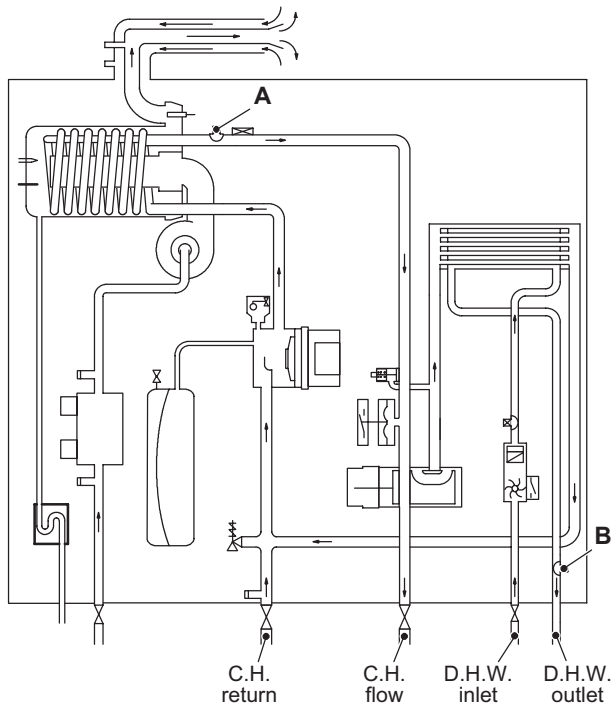
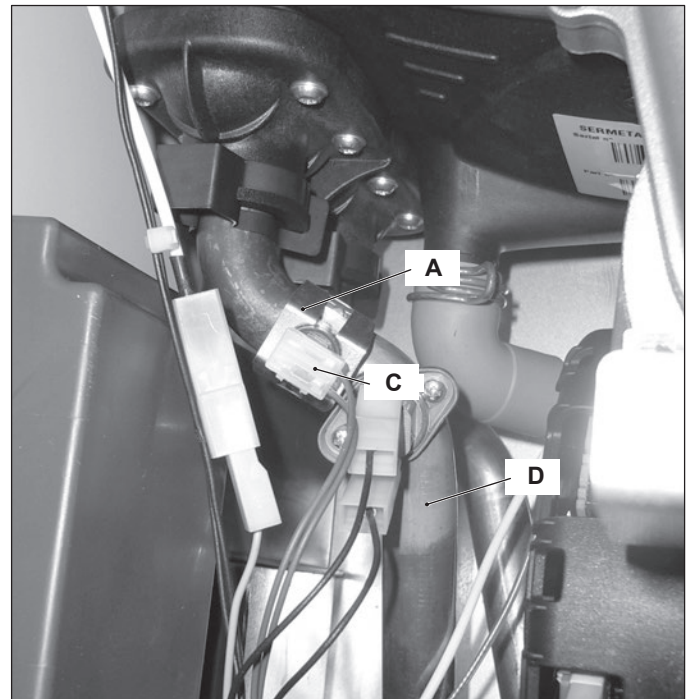
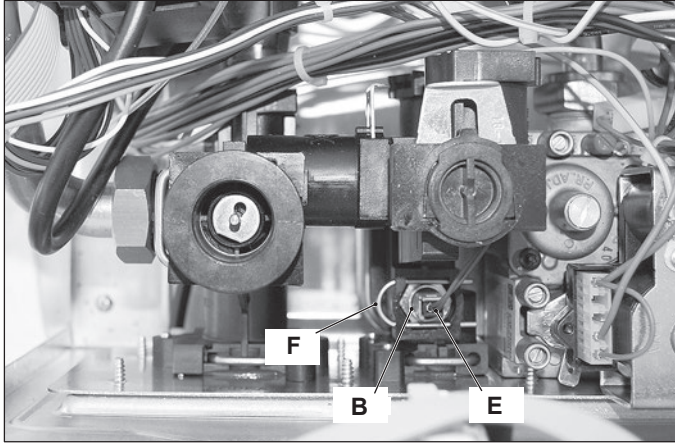

Figure 15.2
Figure 15.3
Figure 15.4
On the boiler there are two temperature probes. One on the output of the primary condensing heat exchanger (C.H. temperature probe) "A" in Figure 15.2 and Figure 15.3; one on the output of the D.H.W. heat exchanger (D.H.W. temperature probe) "B" in Figure 15.2 and Figure 15.4.
- 3 Remove the electric connector "C" and unscrew the C.H. Temperature probes "A" (Figure 15.3).
- 3 Remove the electric connector "E" (Figure 15.4)